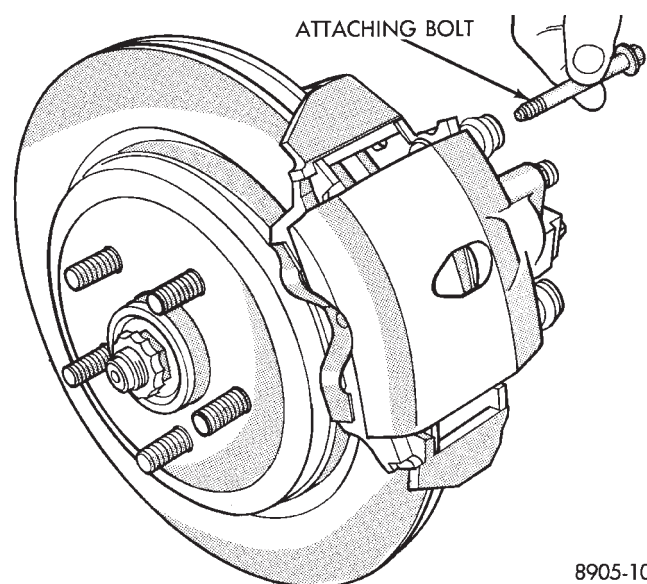

Fig. 9 Installing Attaching Bolts
(6) Install caliper attaching bolts and tighten to 22 N•m (193 in. lbs.) torque (Fig. 9).